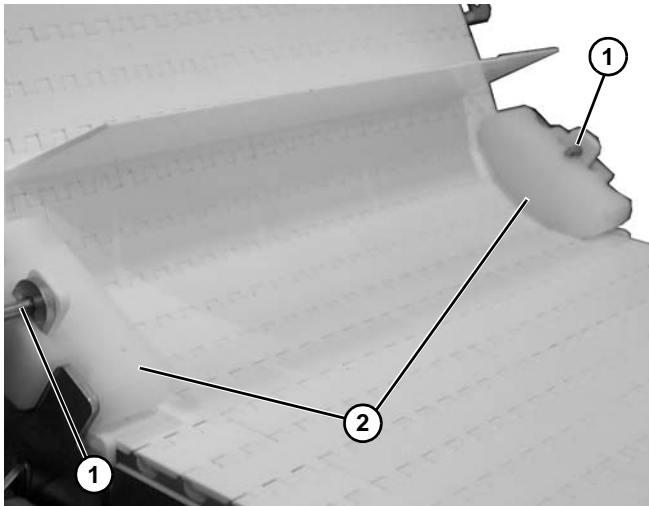
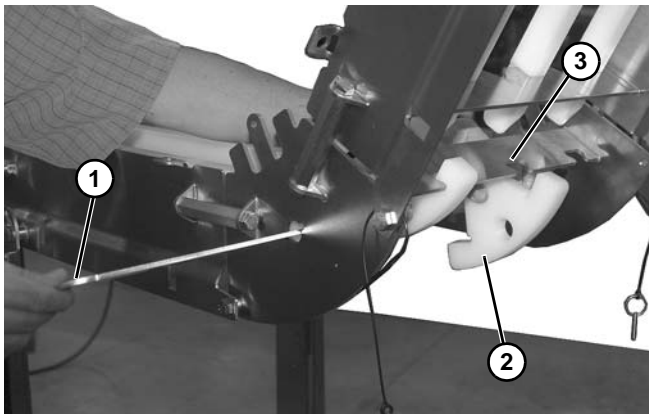

Figure 44
Figure 45
8. Lower Knuckle (LPZ Conveyors) (If Equipped): Remove pull pin (**Figure 44, item 1**) and return shoe (**Figure 44, item 2**) on each side of conveyor on lower knuckle plate. Place in COP tank. Pull out on retaining bar (**Figure 45, item 1**) on the side of the lower knuckle. While pulling out bar, remove the lower knuckle wear guides (**Figure 45, item 2**) from notches (**Figure 45, item 3**) on bracket of knuckle. Place wear guides in COP tank.